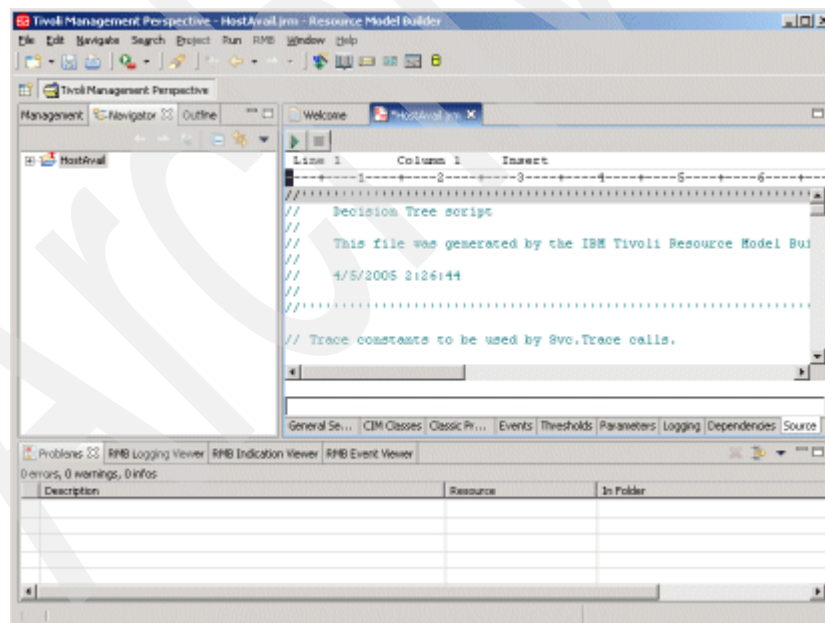

Figure 9-63 Source pane
38. Select the Source tab. The Javascript source pane with the decision tree script displays as shown in Figure 9-63.